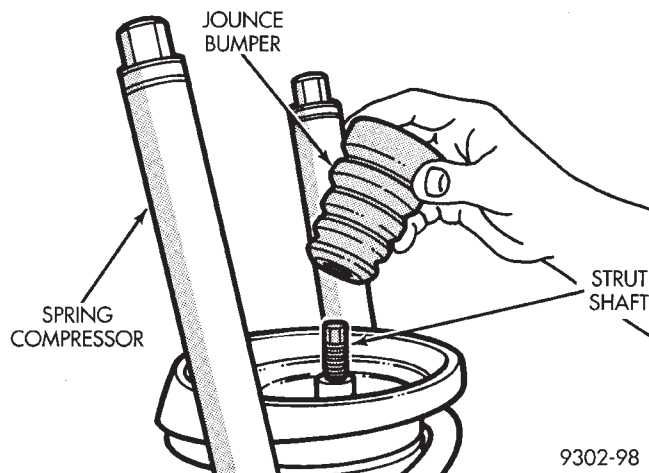

Fig. 10 Jounce Bumper Installation
(5) Install original or replacement jounce bumper onto shaft of strut assembly (Fig. 10).